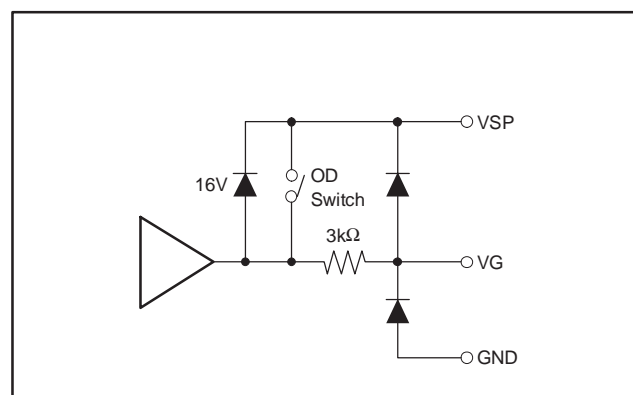

Figure 2. Equivalent Circuit for Gate Drive and Disable Switch
The gate drive (VG) can drive from close to the positive supply rail to 16V below the positive supply voltage (V_{VSP}). Most modern MOSFETs accept a maximum V_{GS} of 20V. A protection clamp is only required if a large drain gate capacitance can pulse the gate beyond the rating of the MOSFET. Pulling the OD pin high disables the gate driver and closes a switch connecting an internal 3k Ω resistor from the VSP pin to the VG pin. This resistor discharges the gate of the external FET and closes the channel; see Figure 2.